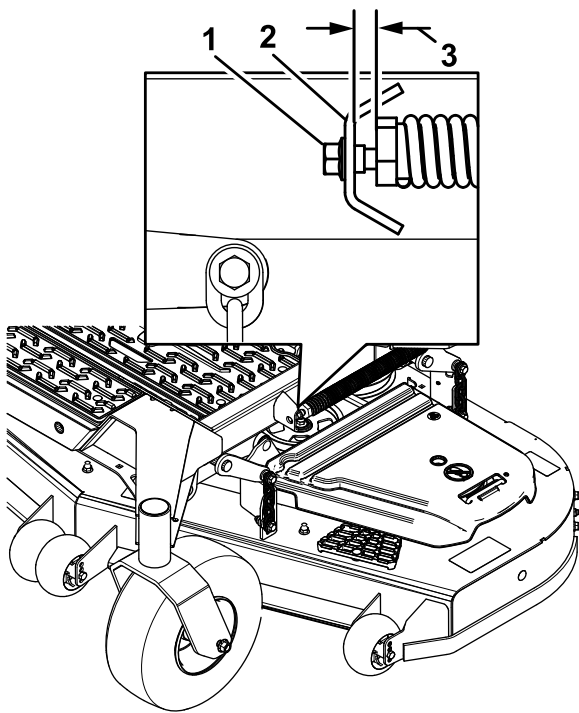

**Figure 103**
7. Check the front-to-rear blade level (Figure 103). Ensure the front blade tip is lower than the rear blade tip as shown in the block height and rake table. If adjustment is needed, continue with this procedure.